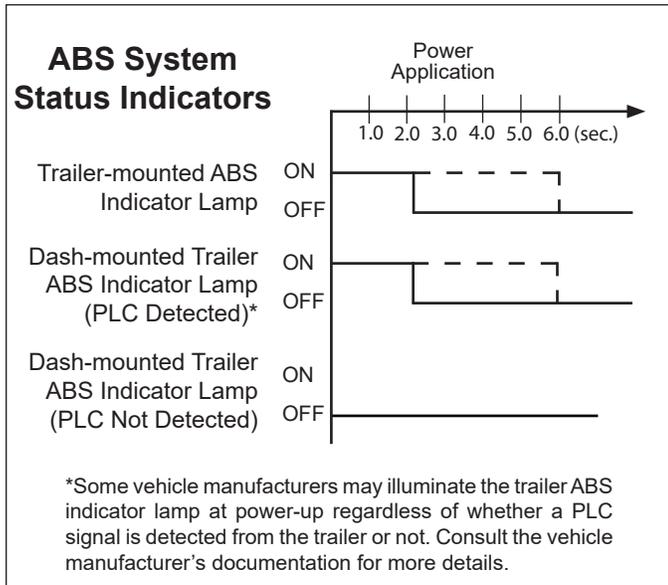

Figure 9 – Trailer ABS Lamp Power-Up Sequence
At power-up, with no active Diagnostic Trouble Codes (DTCs), the trailer ABS indicator lamp will illuminate for approximately two (2) to six (6) seconds as a bulb check and then turn off. See Figure 9.